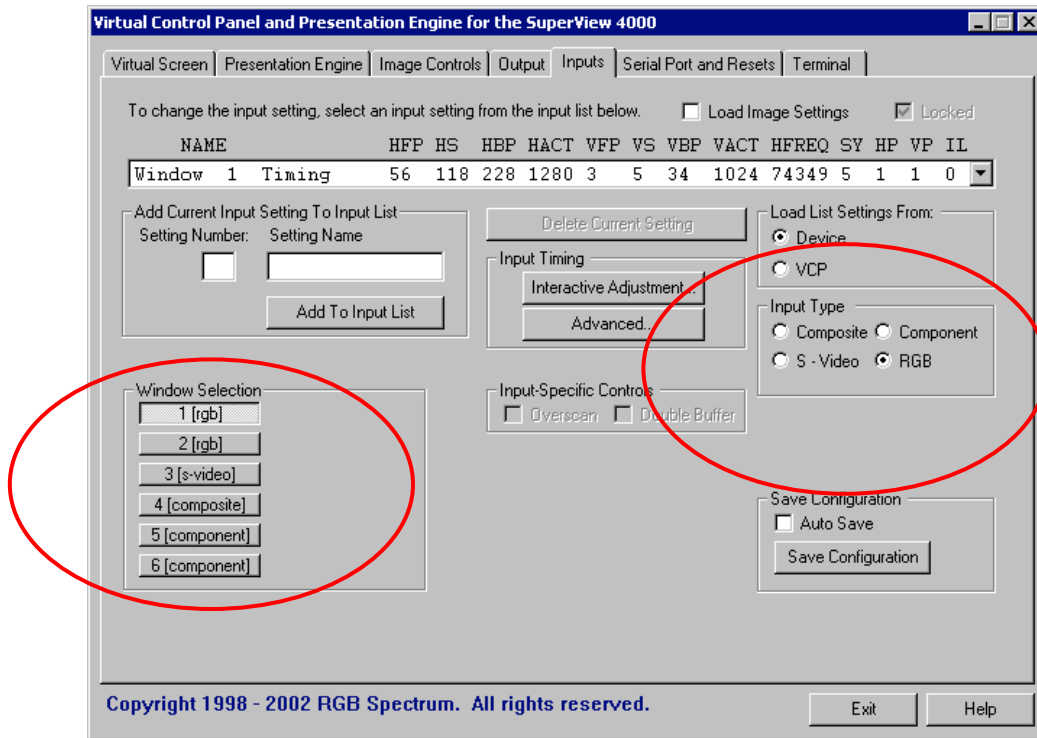

Figure 11. SV3000 VCP Input Menu
The *Inputs* tab allows you to adjust input parameters for all SV 3000 inputs. Each window can display one of three different type of input sources. The *Input Type* section in the right portion of the page allows you to select a SV 3000 input source (see **Figure 11**).
2. Select the **Inputs** tab (**Figure 11**).